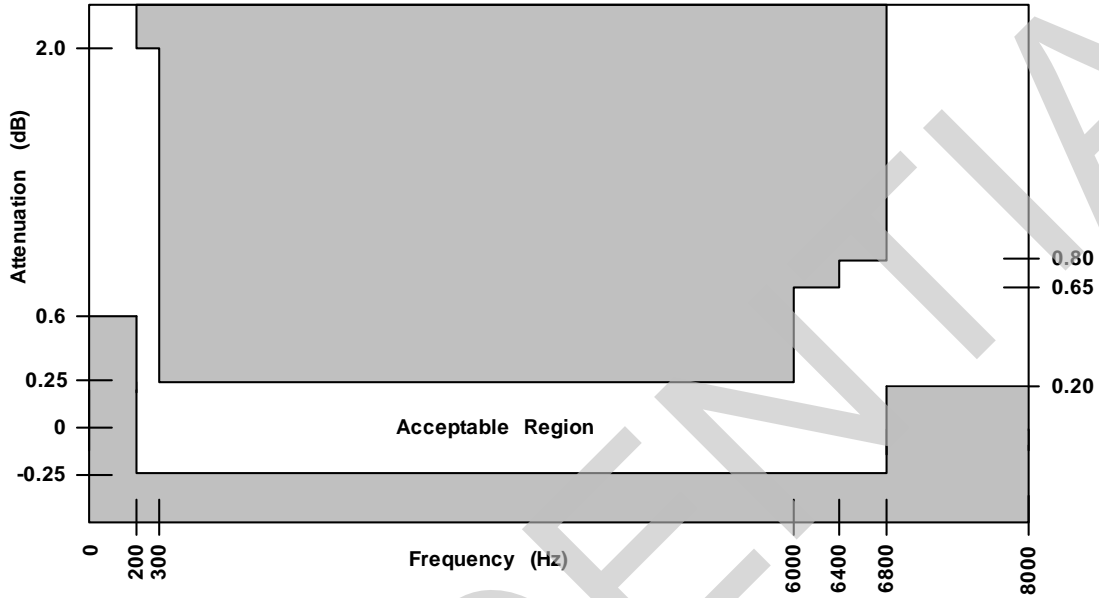

Figure 29 - Transmit (A to D) Path Attenuation vs. Frequency- (with High-Pass Filter Enabled)
3. See Figure 29, "Transmit \(A to D\) Path Attenuation vs. Frequency- \(with High-Pass Filter Enabled\)" on page 45 and Figure 30, "Receive \(D to A\) Path Attenuation vs. Frequency" on page 45.
The signal attenuation in either path is nominally independent of the frequency. The deviations from nominal attenuation will stay within the limits shown in Figure 29 and Figure 30. The reference frequency is 1014 Hz and the signal level is -10 dBm0.